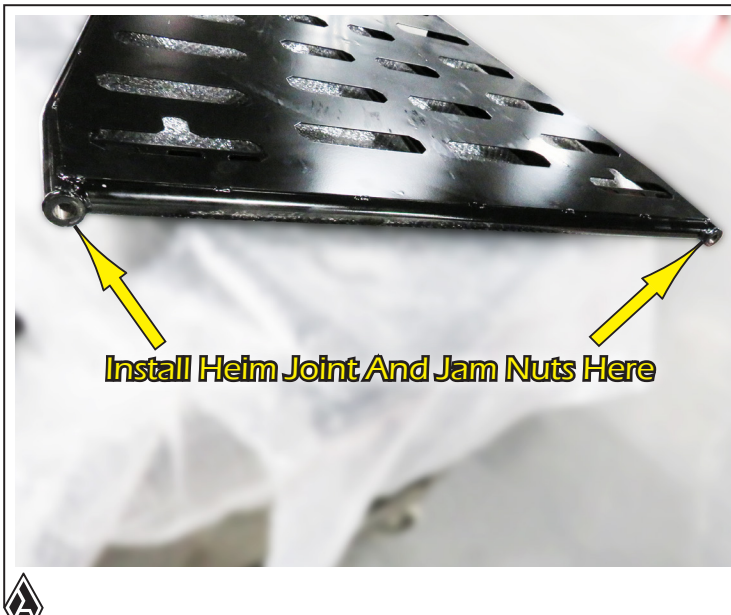
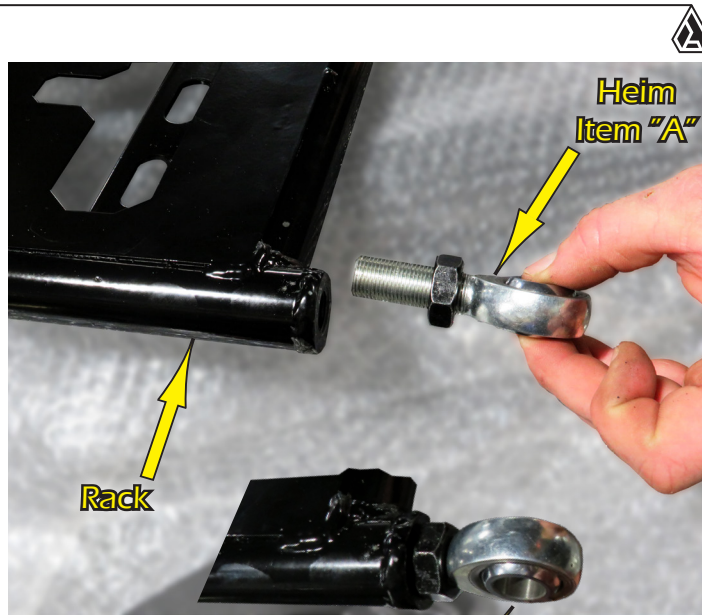

FIG. 17A
FIG. 17B
17. On the back side of the Rack you will install (1) **Heim Joint, Item "A"**, on each side as shown in **Fig 17A**. Screw in Heim as far as you can so that the **Heim is Vertical**, then use the jam nut to tighten the Heim down to the Rack to keep the Heim in that position. Repeat for opposite side. See **Fig. 17b**.